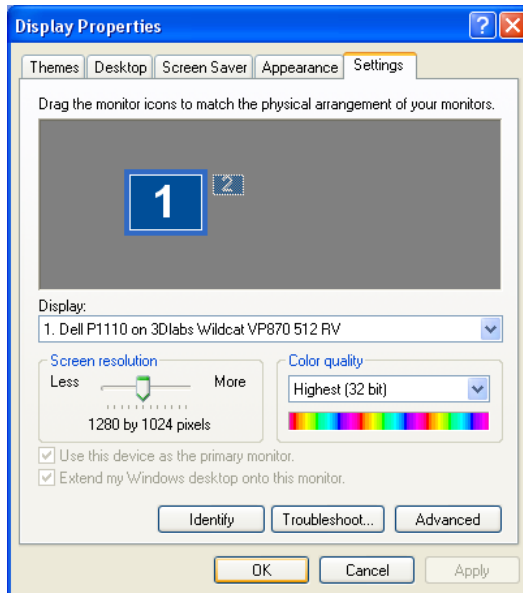

Fig. 20 Settings tab
- Click the Settings tab to display the dialog shown in Fig. 20.
Fig. 20 shows an example configuration with a monitor connected to the host system's primary display adapter (which may be on the motherboard, or in an AGP, PCI or PCI-eXpress slot), and a 2nd Monitor connected to a VREngine/SMD series board.